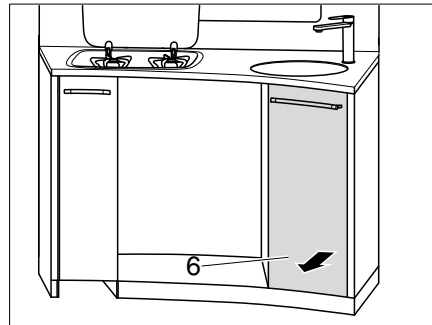

Fig. 135 Removing high kitchen drawers
- Remove the high kitchen drawer (Fig. 135,6).